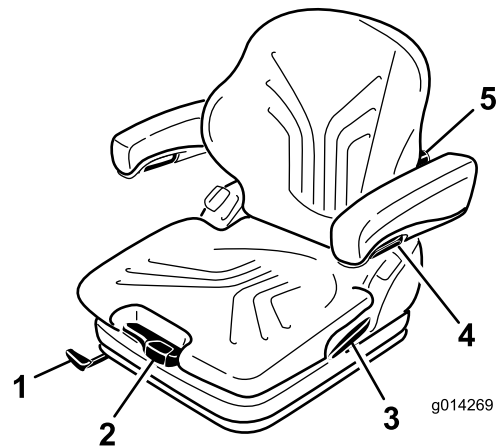

Figure 40
The seat is adjusted for the driver's weight by pulling or pressing the weight adjustment lever (Figure 40).
1. To adjust, lift the lever to unlock the seat (Figure 40).
By turning the adjustment knob upwards, the curvature in the upper part of the backrest cushion can be adjusted. By turning the knob downwards, the curvature in the lower part of the backrest cushion can be adjusted (Figure 40).
To adjust the armrests for height, separate the round cap (Figure 40) from the cover, loosen the hexagon nut (13 mm) behind it and adjust the armrests to the desired position and tighten the nut. Replace the cap onto the nut.
To adjust the angle of the armrests, turn the adjustment knob (Figure 40).
Pull up the locking lever to release the backrest catch (Figure 40). When releasing the backrest catch, do not apply load to the backrest by pressing against it.